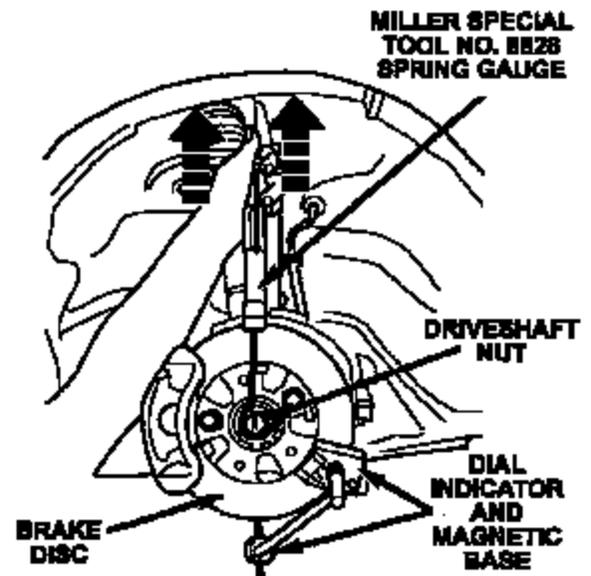

Figure 5
13. With the dial indicator still attached and set to zero, use the spring gauge to apply 33 lbs. (15 kg) of upward force to the driveshaft nut and read the dial indicator (Figure 5). Record the amount of total movement of the ball joint.